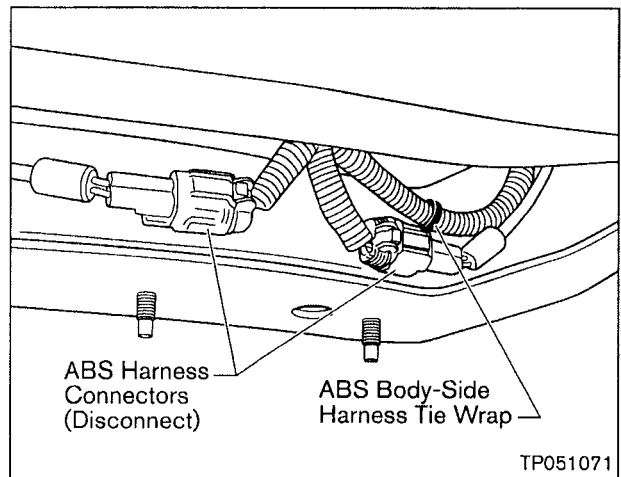

Figure A16
9. Disconnect the two ABS harness connectors from the back side of the rear suspension member (if equipped). See Figure A16.